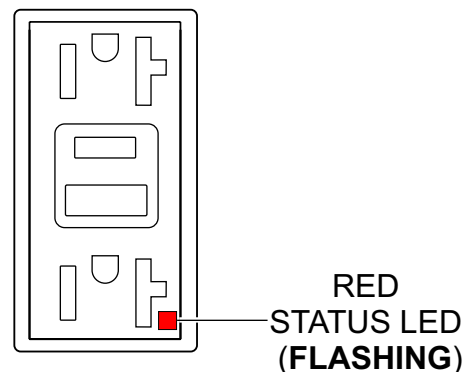

Figure 96. GFCI Receptacle (RED Flashing LED)
6. If the status LED (Figure 96) is **flashing (RED)**, **DO NOT** use the GFCI receptacle and replace it immediately.